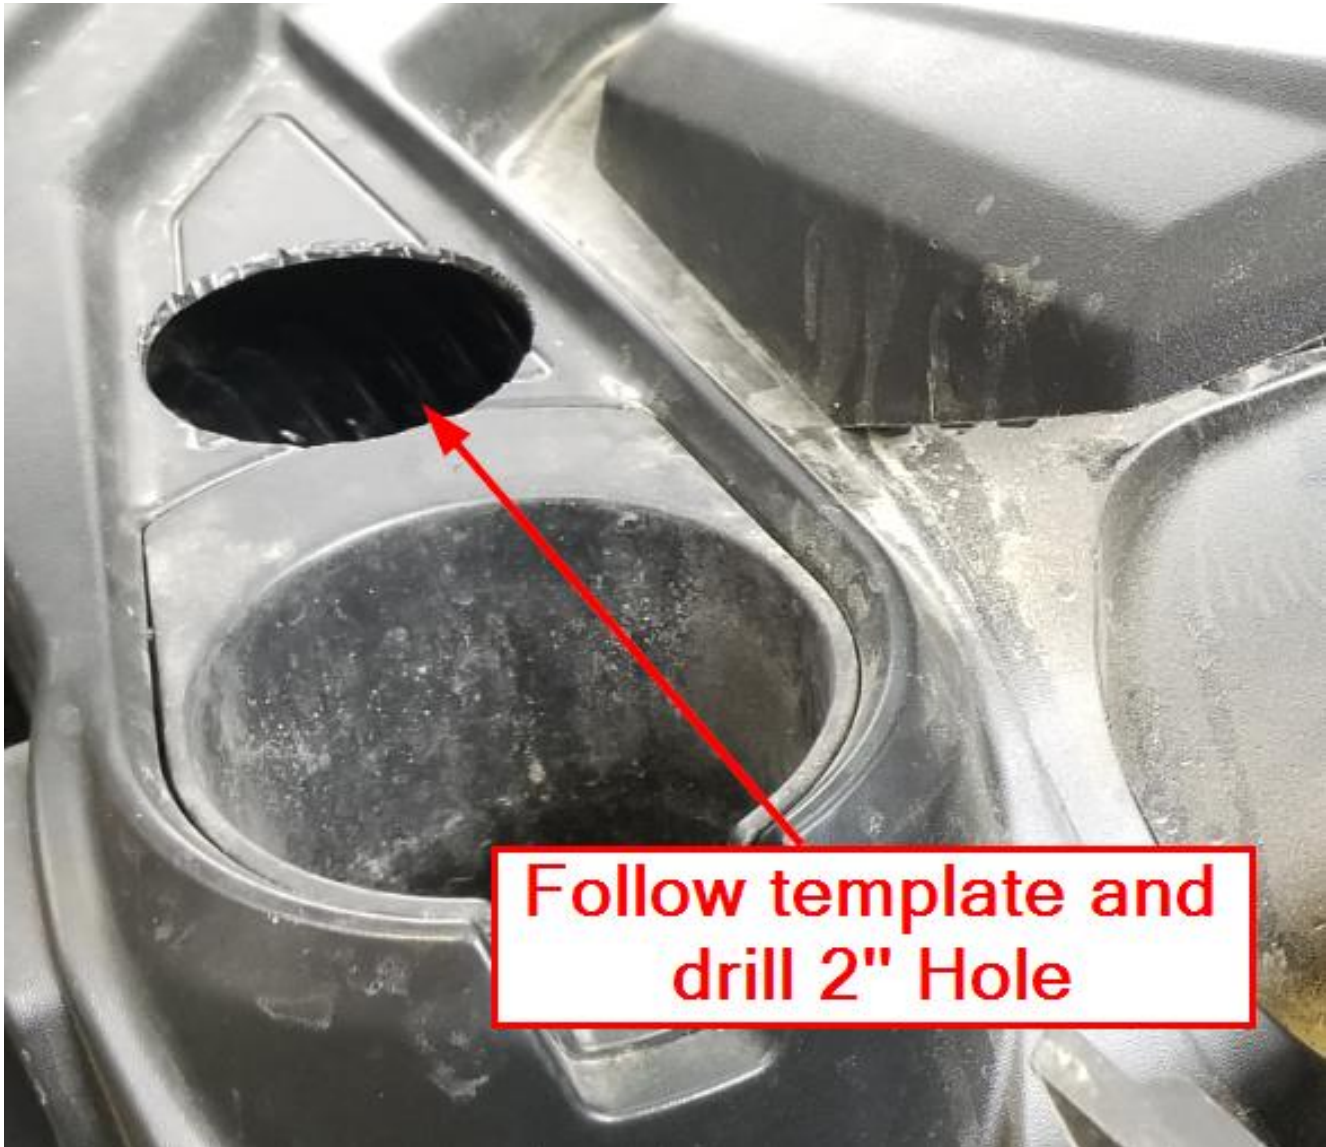

Figure 15
- c. Position the Defrost Templates as shown in Figure 14 behind the driver and passenger side cup holders. Position the 2" Vent Templates so that the larger circle does not ride up on the radius of the dash. Transfer the hole centers on the template and drill using the included 2 1/8" Hole Saw and Pilot Bit as shown in Figure 15. This hole may slightly trim the edge of the cup holder insert, use a razor blade to trim back and plastic bur created by the edge of the cup holder.